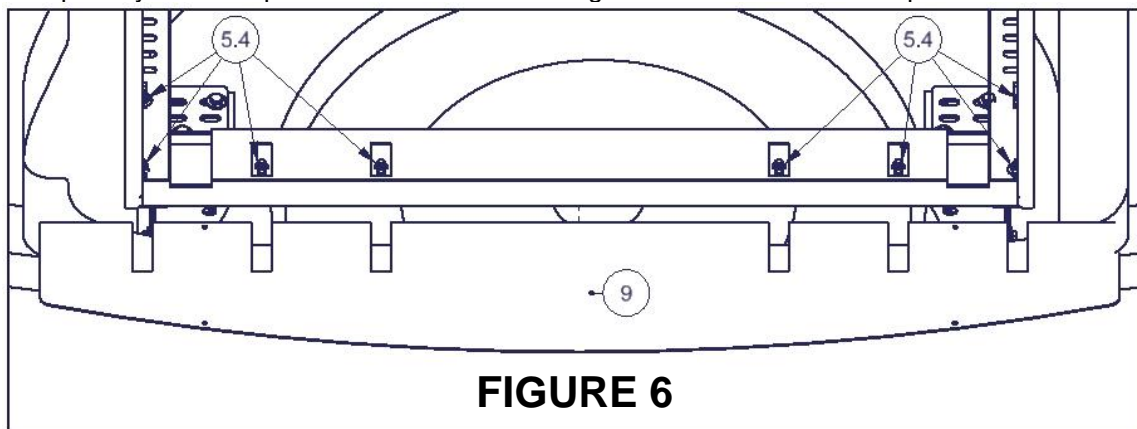

FIGURE 6
8. Loosen the (8) #5.4 Nuts that hold the lower portion of the enclosure to the #7 Support plates and slip the #9 Rear Apron between them. (See Figure 6) NOTE: The two cargo hooks in the lower rear cargo area may need to be removed temporarily for rear apron installation. Do not retighten nuts until #10 Side Aprons are installed and adjusted.